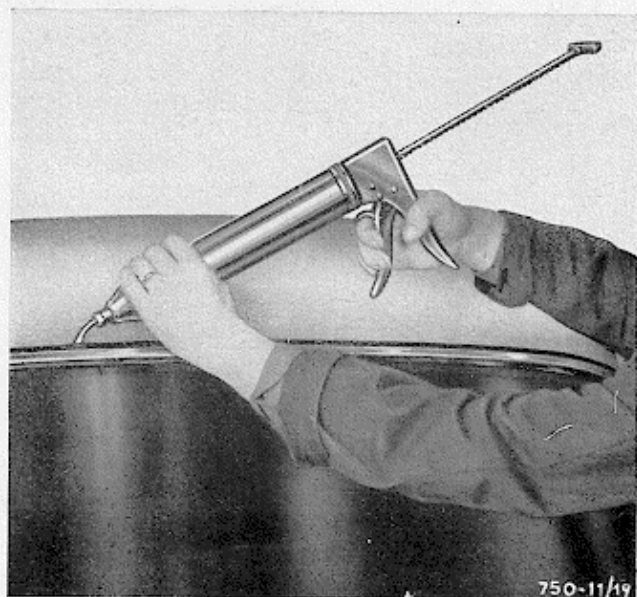

Fig. 18 - Applying sealing compound around the inner edge of the window rubber, using a special injection gun
- using a suitable gun, inject sealing compound into the joint (Fig. 18) in order to prevent water penetrating to the car interior;